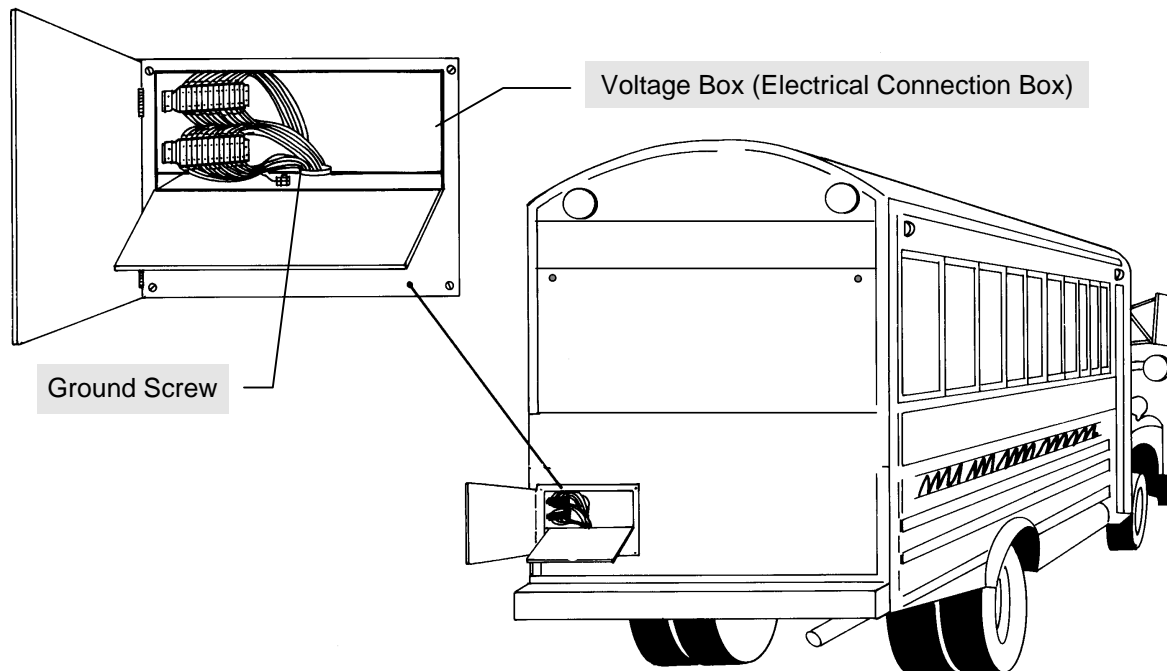

Figure 1 Locating the Voltage Box
1. Lift the access panel at the rear of the coach and locate the voltage box on the driver's side of the compartment (see figure 1).
5. Reroute the two ground wires (with ring terminal installed) to the ground screw on the center of the floor in the voltage box and bolt the ring terminal to this ground point (see figures 1 & 5). The green LED on the AntiLock controller should now be illuminated when the vehicle is "powered up".